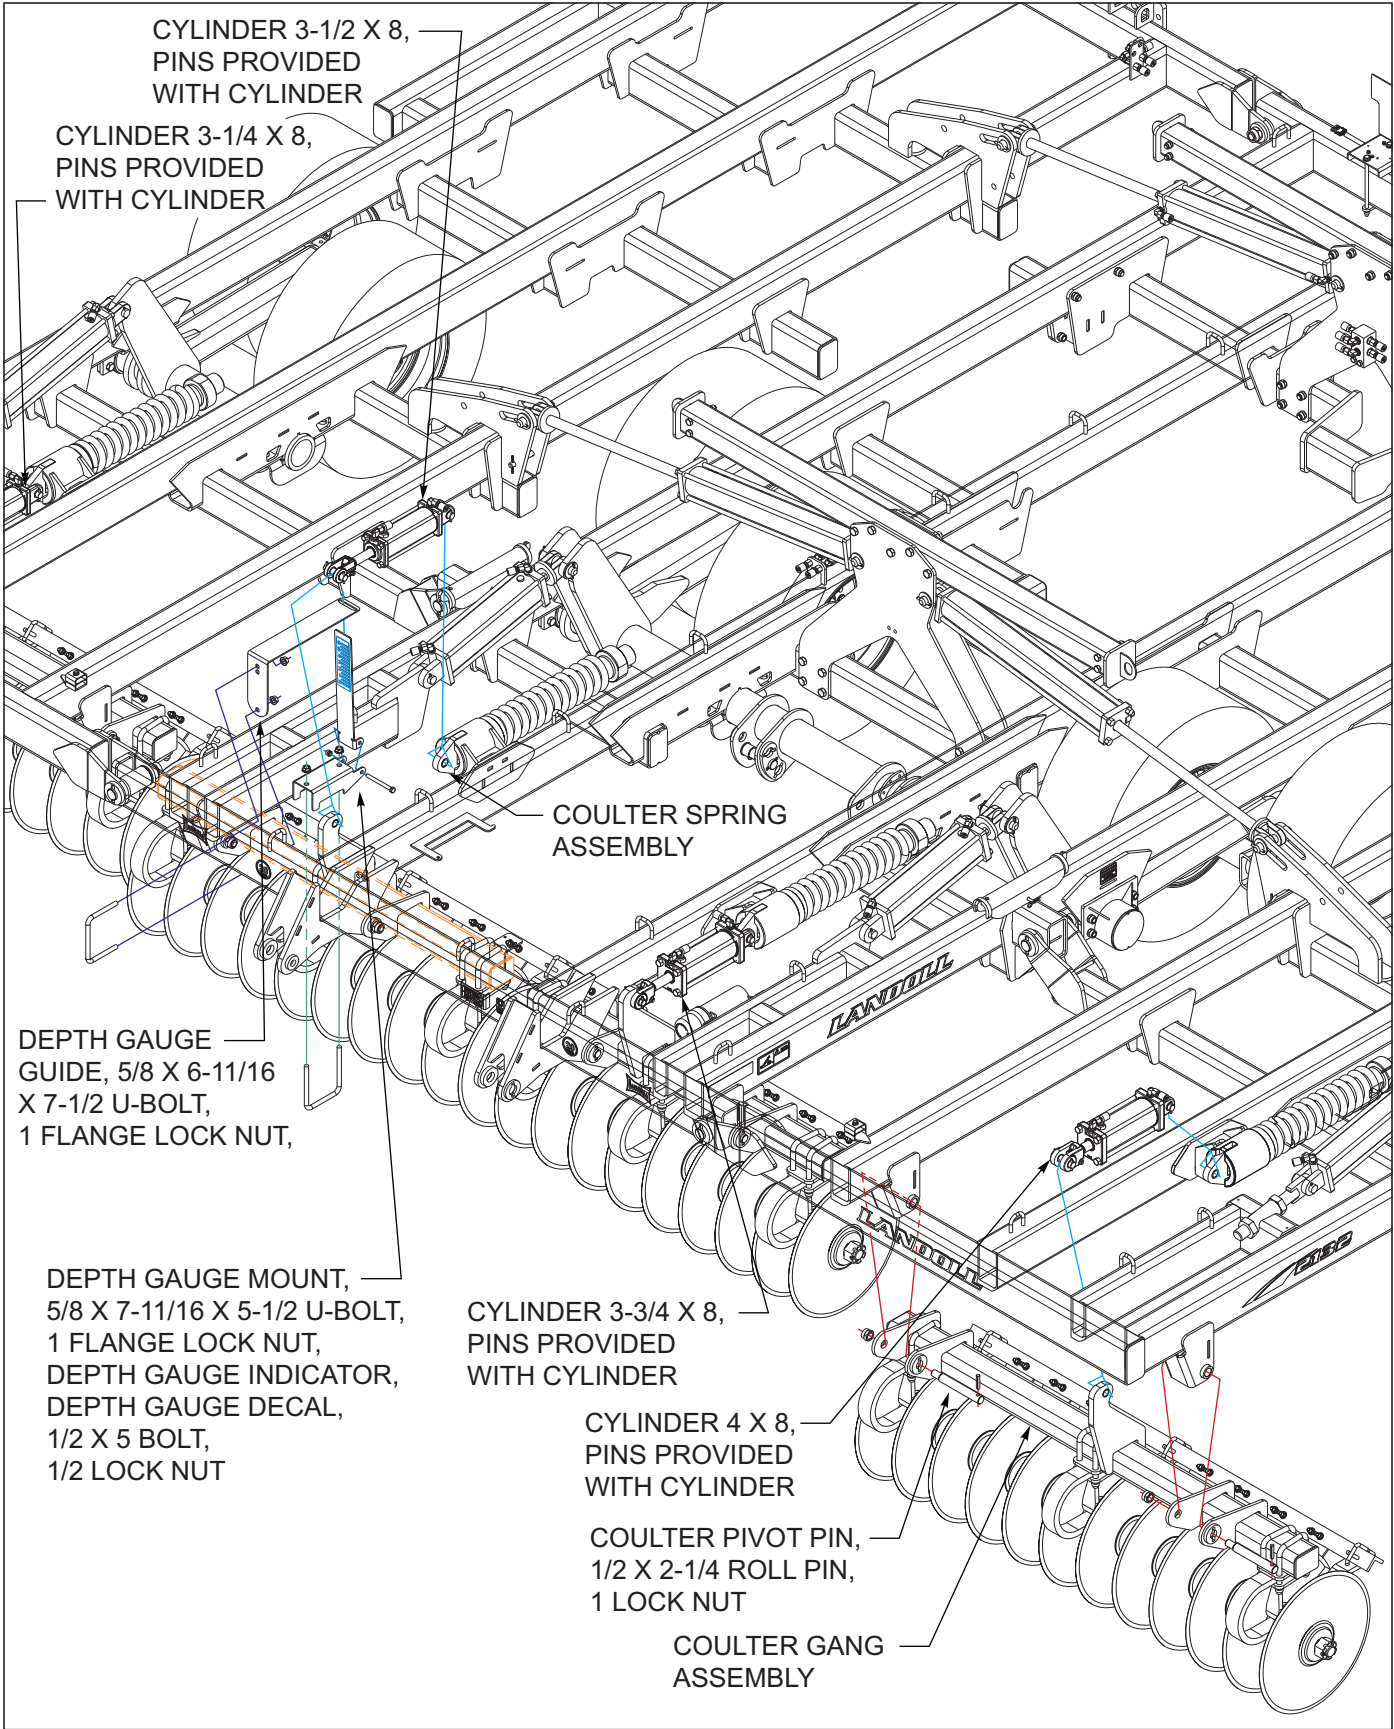
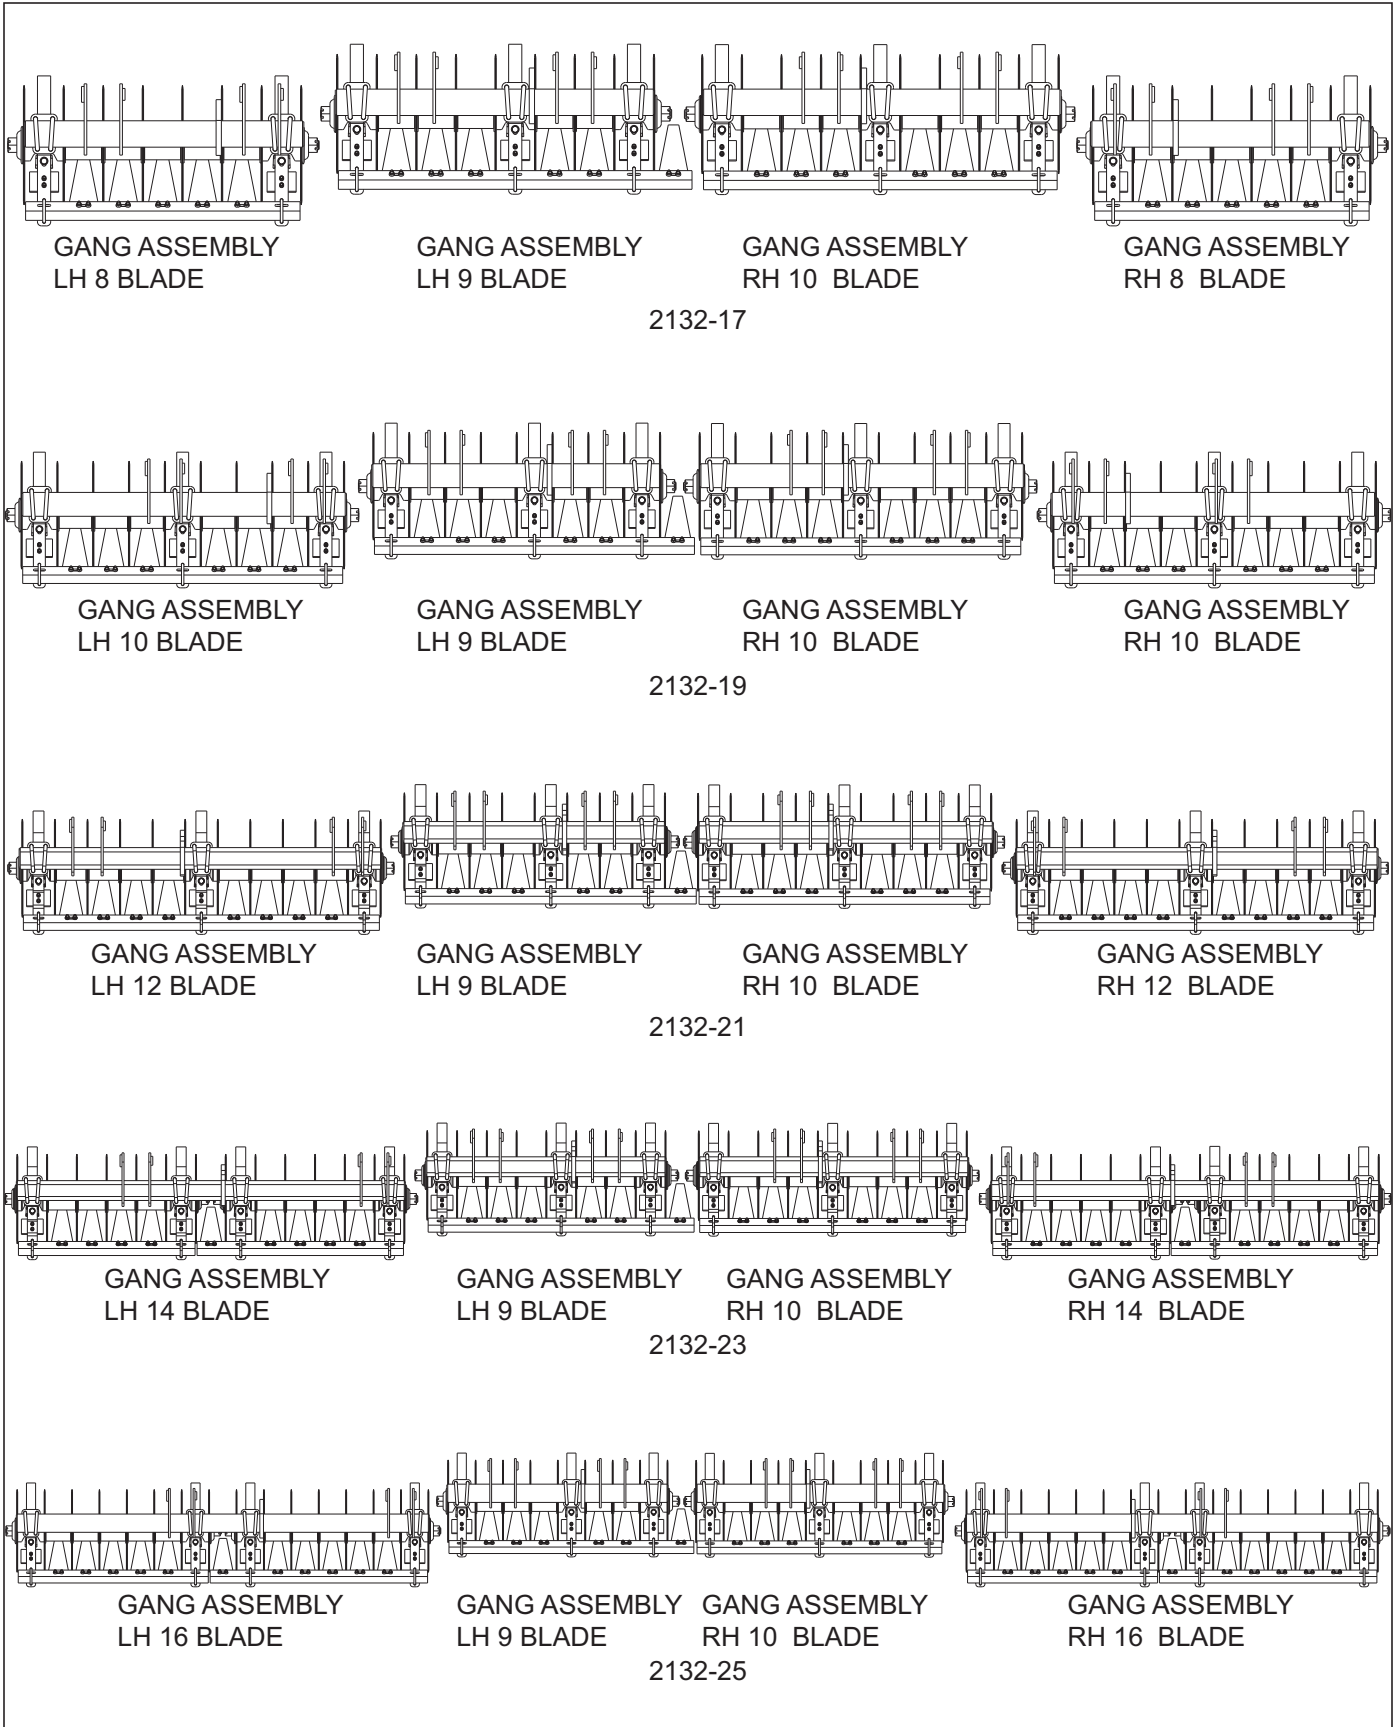

Figure 3-6: Coulters Gang Installation
Figure 3-7: Coultter Gang Placement
1. Attach the coulters gang assemblies to the center and wing frames using coulters pivot pin, 1 lock nut, and 1/2 x 2-1/4 roll pin See Figure 3-6 and See Figure 3-7 for gang assembly placement.